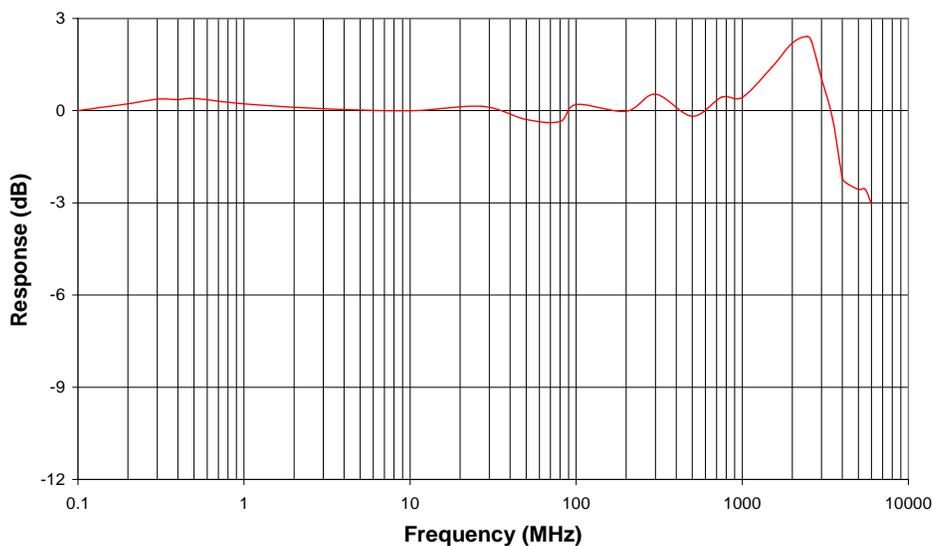

Figure 1: Frequency Response
**Frequency Response** is undoubtedly the most important probe characteristic. It is defined as the frequency range the probe will respond to. Since no probe can provide a completely flat response across the entire frequency range, this spec is always accompanied by a tolerance figure, generally provided as a  $\pm$ dB allowable variation band. An example of a typical frequency response is shown in Figure 1. The frequency response shown in Figure 1 is that of an actual probe designed to cover a heavily used frequency range. If the probe does not cover the entire frequency range of the test application, multiple probes may be required.